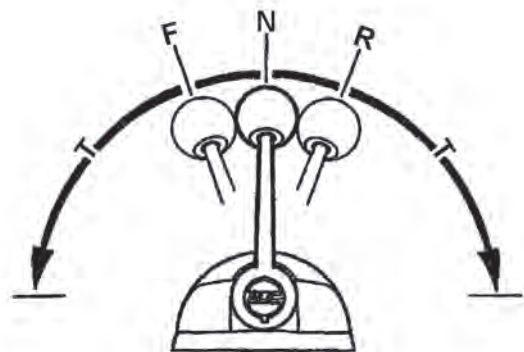

Figure F3: Electronic Control Lever Positions
1. Move shift/throttle lever(s) to the neutral idle position. Placing the shift/throttle levers in the neutral detent position will engage neutral start switch and allow engine to start. The engine can not be started if the control lever is in any other position but NEUTRAL. See Figure F3.